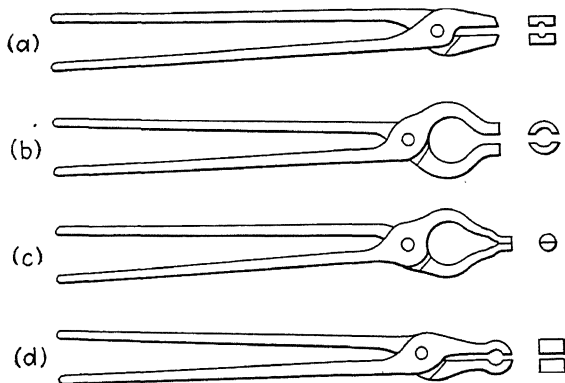

FIG. 245.—Types of tongs commonly used. a, Flat; b, hollow-bit; c, pickup; d, link or ring.
handled with tongs. Many forms and sizes of tongs are used; some are standard; others have jaws especially shaped. The types commonly used are illustrated in Fig. 245.
*Flat tongs* (a, Fig. 245) are used ordinarily for holding flat stock. When they have a small groove running lengthwise in each jaw, they may be used for holding the smaller sizes of rods.
*Hollow-bit tongs* (b, Fig. 245) are used for holding round or square or flat stock. The wide space behind the jaws provides room for the head of a bolt or a similar enlarged part of a
*Pickup tongs* (c, Fig. 245) are used more often for handling hot pieces than for holding them during the forging process. When properly shaped, they are not at all clumsy.
*Link or ring tongs* (d, Fig. 245) are used primarily for holding curved pieces. Being fairly narrow, the jaws grip closely on a short part of the curve as the piece is being forged. When it is necessary to hold a rod at right angles with the tongs, this type may be used (see Art. 309).
**309. Upsetting.**—To enlarge the cross-sectional area of a given portion of a piece of steel or wrought iron, heat slowly and thoroughly until almost white hot that part of the bar (usually one end) at which the enlargement is wanted. If the bar is fairly long, the cold part may be grasped in the hands and the heated end struck against the face or side of the anvil. Shorter pieces are held vertically on the anvil with link tongs (d, Fig. 245) and the colder end struck with hammer or sledge. In either case heavy blows and perhaps occasional straightening are necessary.